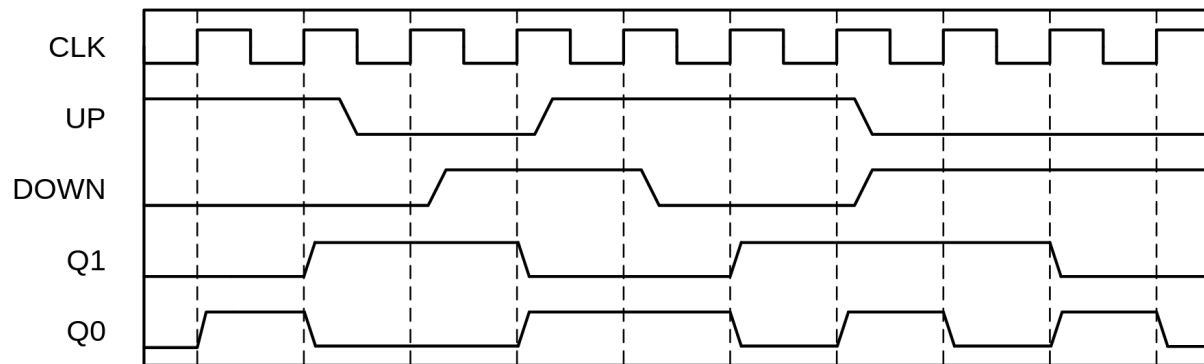

Figure 3: Solution: The sketched waveform for the prediction accuracy counter
- (a) Draw a state diagram of this machine. Let the initial state be $Q(0) = (00)_2$.
- (c) Sketch the timing diagram shown below in Fig. 3
3. The timing diagram is shown below in Fig. 3